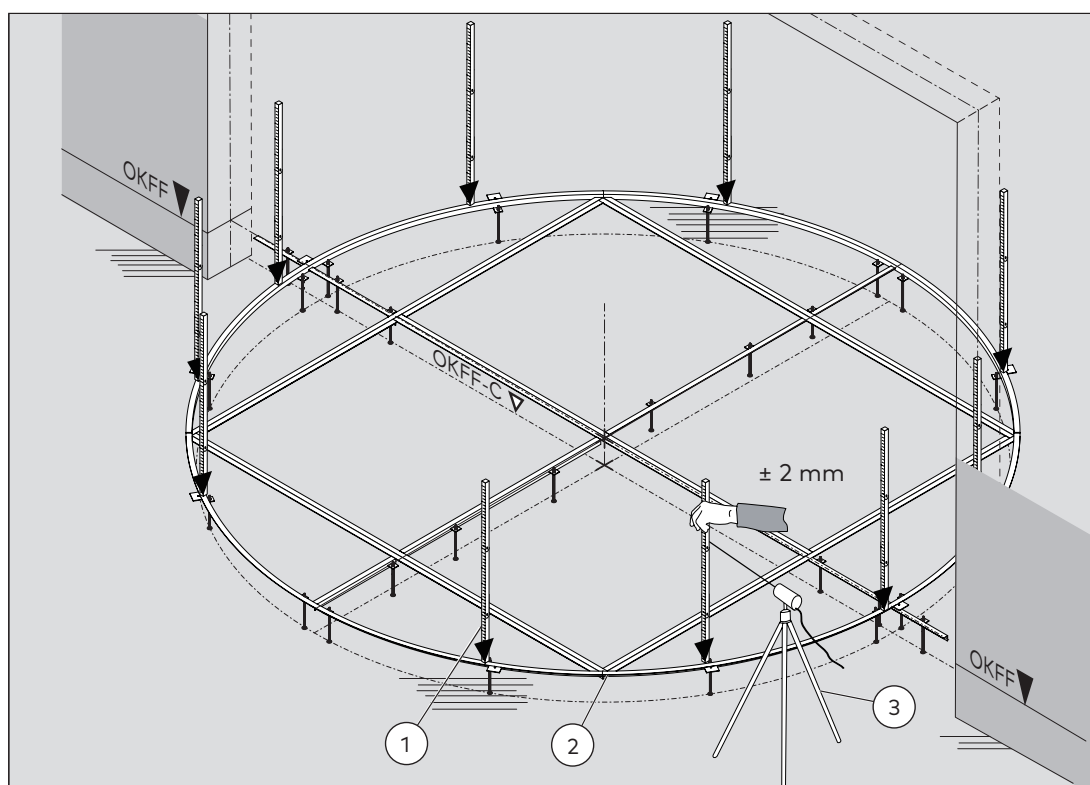

Fig. 17 Leveling the floor ring
1. Position the laser leveling device (Fig. 17/3) horizontally in front of the floor ring (Fig. 17/2).
2. Select a reference point, then position the leveling staff (Fig. 17/1) vertically at any point on the floor ring.